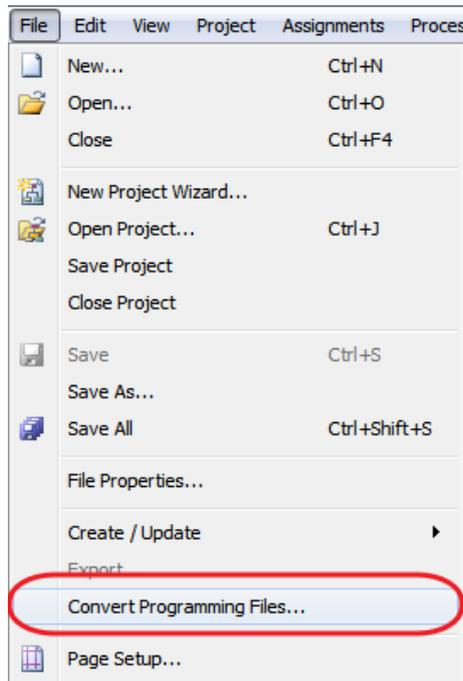

Figure 7-2 File menu of Quartus II
1. Choose **Convert Programming Files** from the File menu of Quartus II, as shown in **Figure 7-2**.